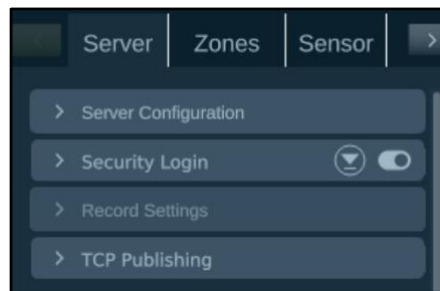

Figure 22. Security: Login Toggle On
1. From the **Configuration** mode panel > **Server** tab, in **Security** panel header, click the **Security** toggle. See Figure 22. Security: Login Toggle On